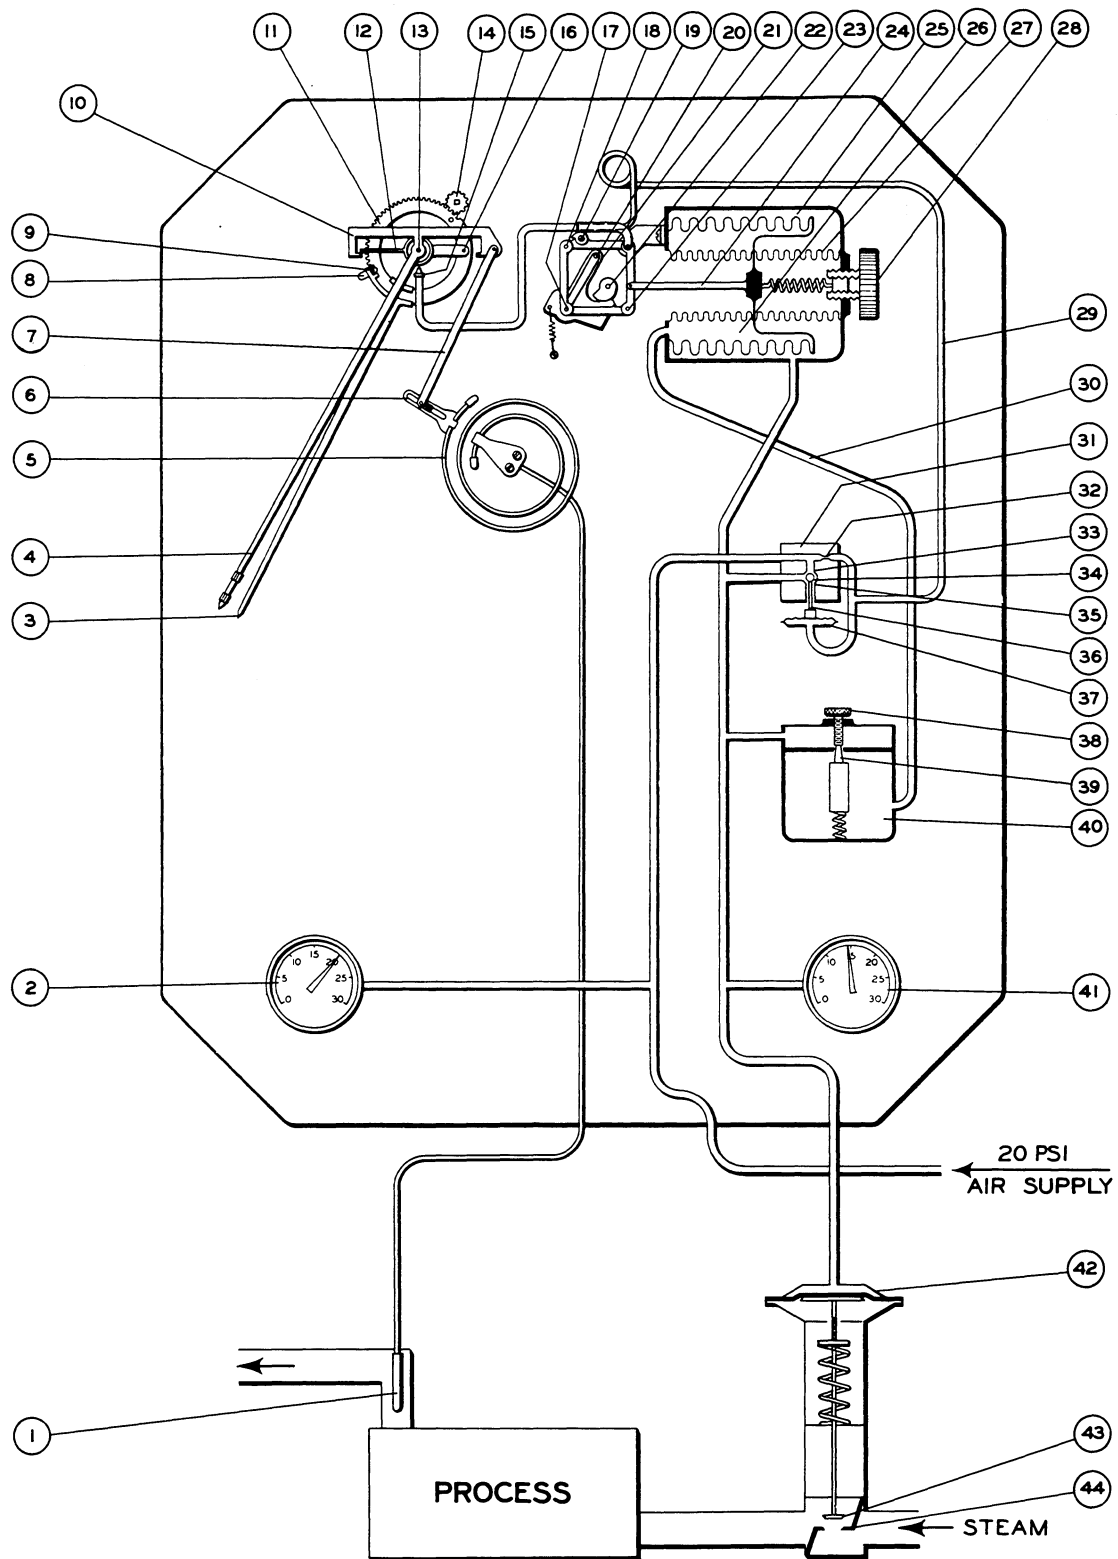

Fig. 11
3. Wedge a small piece of loosely folded paper between the pen movement arm (7) and the movement plate (6).
6. Turn the Reset Rate Knob (27) counter-clockwise to its stop.
12. Position cam (19), Fig. 11, with a screw driver until the output pressure is 10 psi.
16. If the pen and the set pointer are separated, move the set pointer $1/2$ the distance toward the pen with knob (8) and the remaining distance with micrometer screw (12).
1. Set the Sensitivity knob (13) at 300 (just before HIGH if range is 1 - 1000).
2. Adjust cam (19), Fig. 11 with a screw driver to obtain an output pressure of 10 psi.
5. Unlock the synchronizing wheel (15).
Fig. 11 is a schematic diagram of a Taylor Fulscope Controller with Adjustable Sensitivity and Automatic Reset on a heating application. The control valve is of the "Air to Close" type, and the controller is direct acting.